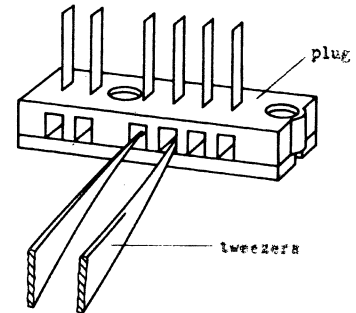

Fig. 19.1
9. Introduce the tips of the brass forceps into the two centre holes - in the case of plugs with four soldering lugs into the two holes on the left (see Fig. 19.1).